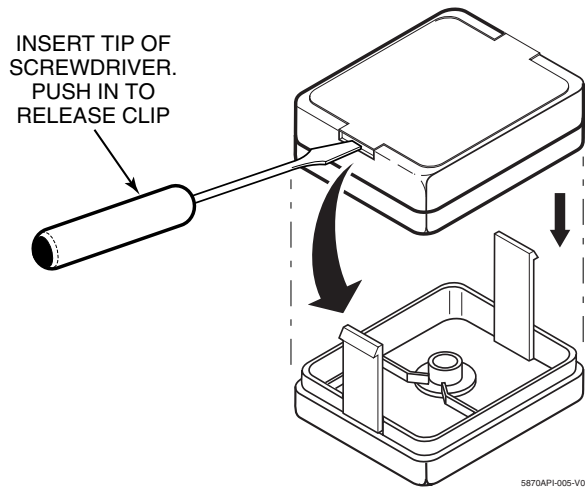

Figure 2 – Replacing the 5870API Battery
2. Carefully remove the sensor's cover. (see Figure 2)